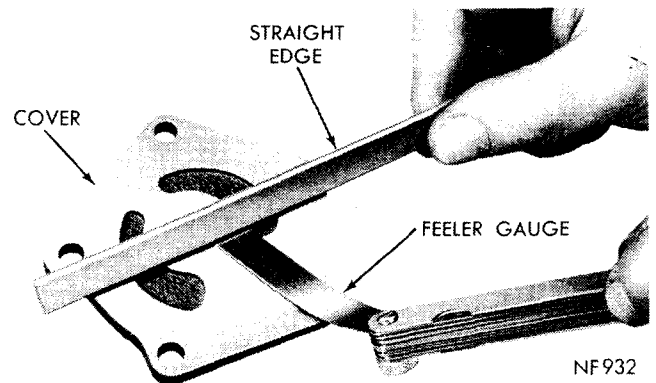

Fig. 56—Measuring Oil Pump Cover Flatness
- (1) Clean all parts thoroughly. Mating surface of the oil pump cover should be smooth. Replace pump assembly if cover is scratched or grooved.
- (2) Lay a straight edge across the pump cover surface (Fig. 56). If a .0015 inch feeler gauge can be inserted between cover and straight edge, pump assembly should be replaced.